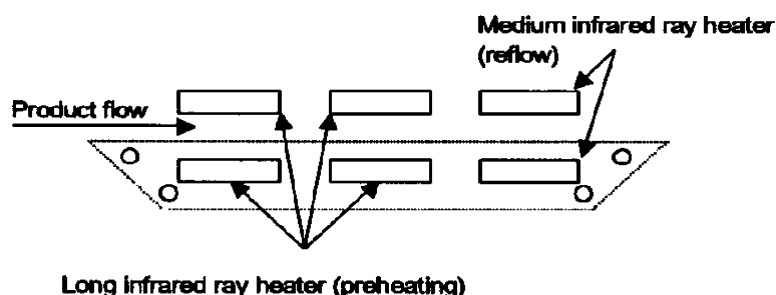

Figure 1. Heating the top and bottom of the device with far- and mid-infrared rays
(1) It is recommended to heat the top and bottom of the device with far- and mid-infrared rays. (See Figure 1.)